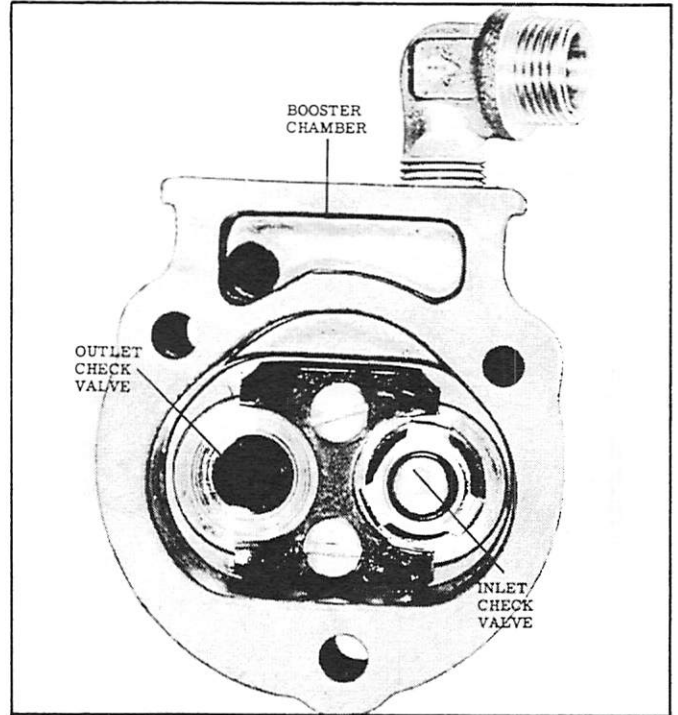

Figure 11. Check Valve Location
- b. Place new check valve gaskets in seats and set check valve discs in position. Inlet check valve seat is identified by its protruding tip in casting. Flat side of check valve seats over this tip. Outlet check valve is set in opposite (flat end up) so tension is against valves. (Figure 11)